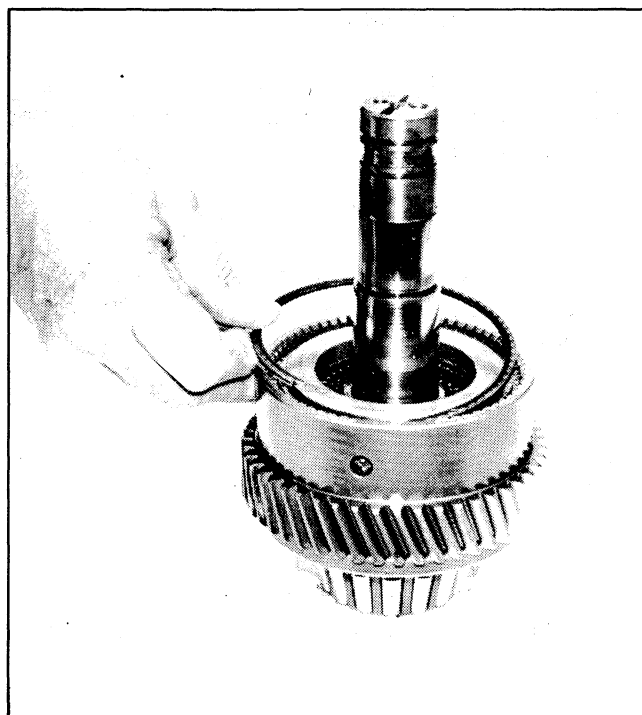

Figure 8-5. Removing or Installing the Internal Retaining Snap Ring on the Housing Gear.
7. Remove internal snap ring (Figure 12-3, 9). See figure 8-5.
7. Install internal snap ring (Figure 12-3, 9). See Figure 8-5.